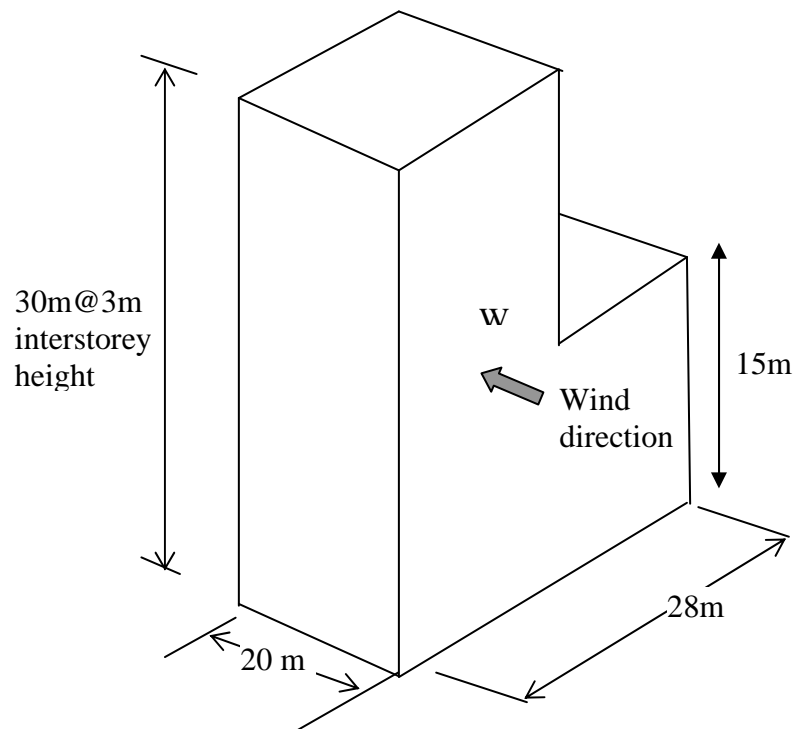

Figure 2
- b) A tall building as shown in Figure 2 is situated terrain category 2 with basic wind speed of 32.5 m/s^2 . Calculate the value of design wind pressure on the W(windward) surface at level 15m and 30m. Design data can be extracted from MS1553 (2002).